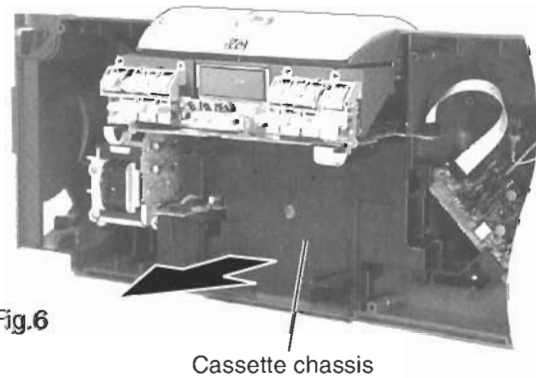

Fig.6
■ Removing the CD Unit Assembly (See Fig.6 to 8)
1. Remove the cassette chassis (See Fig.6).